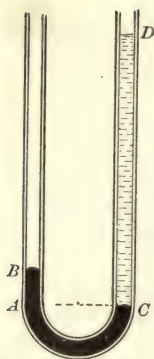

FIG. 58. — U-tube with mercury and another liquid.
16. In figure 58, the U-tube is partly filled (*BAC*) with mercury whose density is 13.6 grams per cubic centimeter, and partly (*CD*) with a liquid of unknown density. If the length of the column *BA* is 5 centimeters and that of the column *CD* is 75 centimeters, what is the density of the liquid?